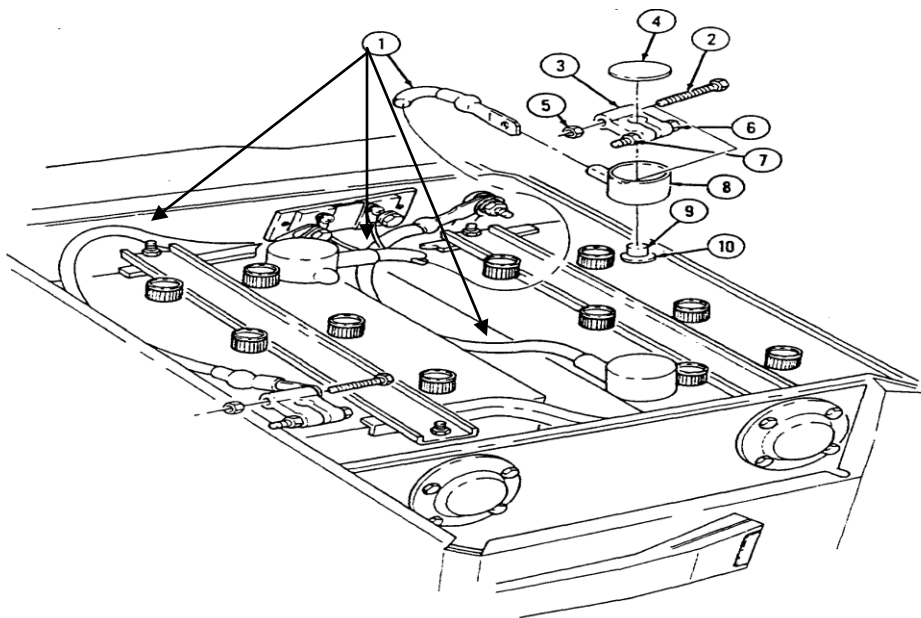

Figure 1
a. Battery Terminal Clamp Removal. Refer to TM 9-2320-387-24-1, Chapter 4, Task Para 4-67, Page 4-108 and **Figure 1** contained in these instructions.
- (1) Remove cap (4) from battery terminal boot (8).
- (2) Loosen screw (6) and nut (7) and remove terminal clamp (3) from terminal post (9).
- (3) Remove screw (2) and nut (5) from cable (1) and terminal clamp (3).
- (4) Remove cable (1) from terminal clamp (3) and battery terminal boot (8).
- (5) Remove terminal clamp (3) from battery terminal boot (8).
- (6) Remove battery cables (1) and secure all cables to the head side of the mounting cap screws.